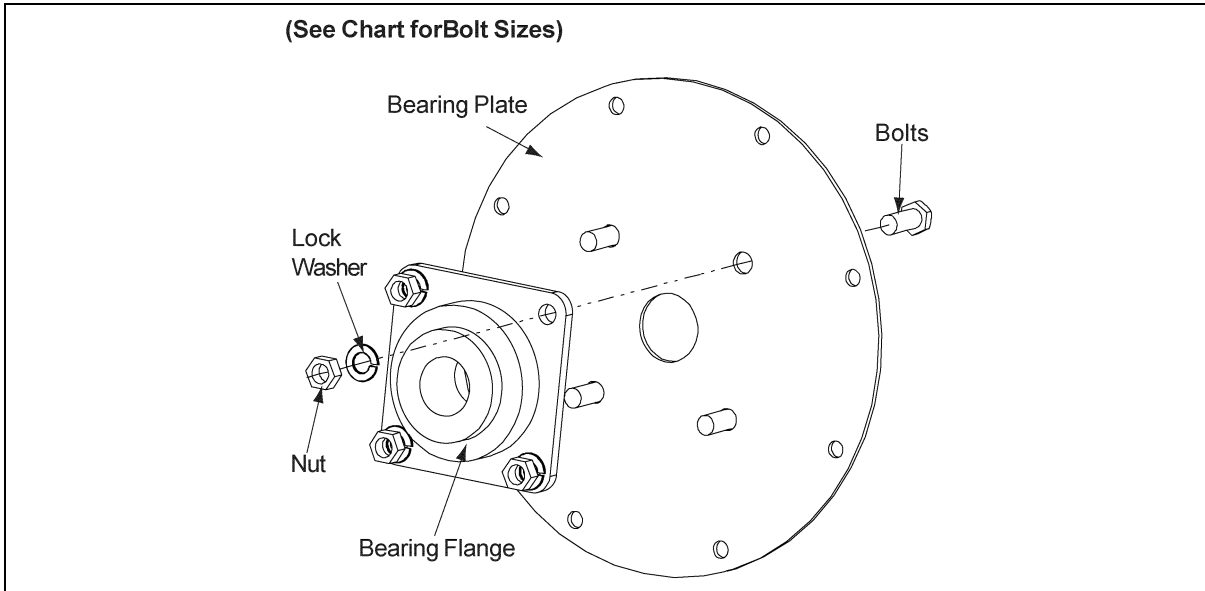

**Figure 4A**
*(See Chart for Bolt Sizes), (See Figure 4A).*